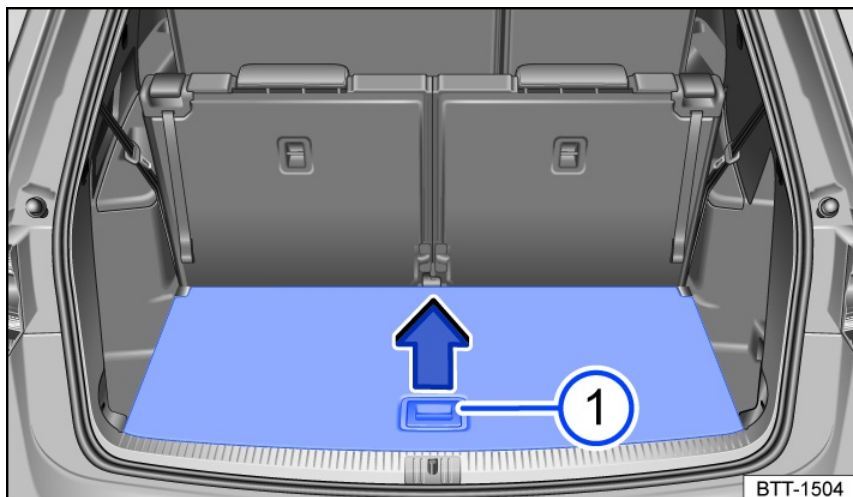

Fig. 161 In the luggage compartment: opening the luggage compartment floor.
2. Grasp the handle in the luggage compartment floor fig. 161 and lift up the floor panel in the direction of the arrow.